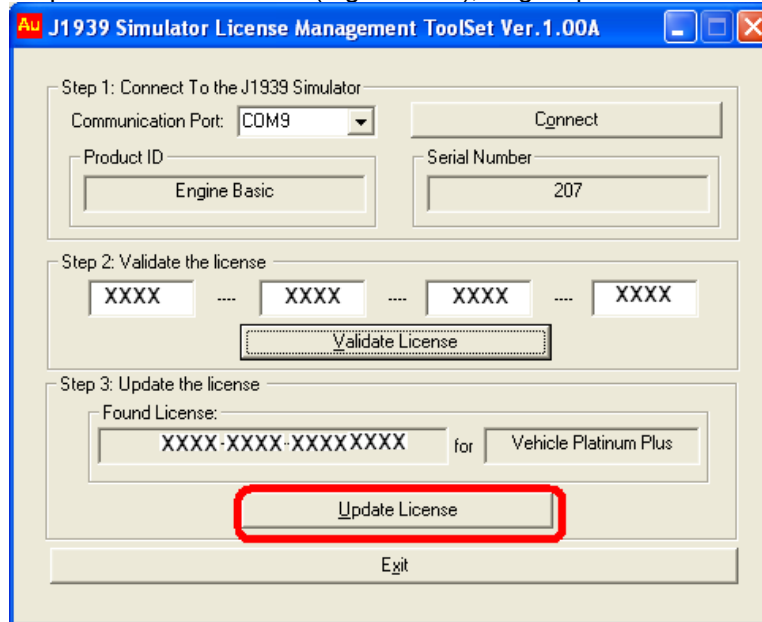

Figure B-13 Engine premium license validate
4. After a validate license is entered, Au J1939 Simulator License Toolset will show the license information for the new license code, click “Update License” button (Figure B-13), Engine premium is demonstrated here.